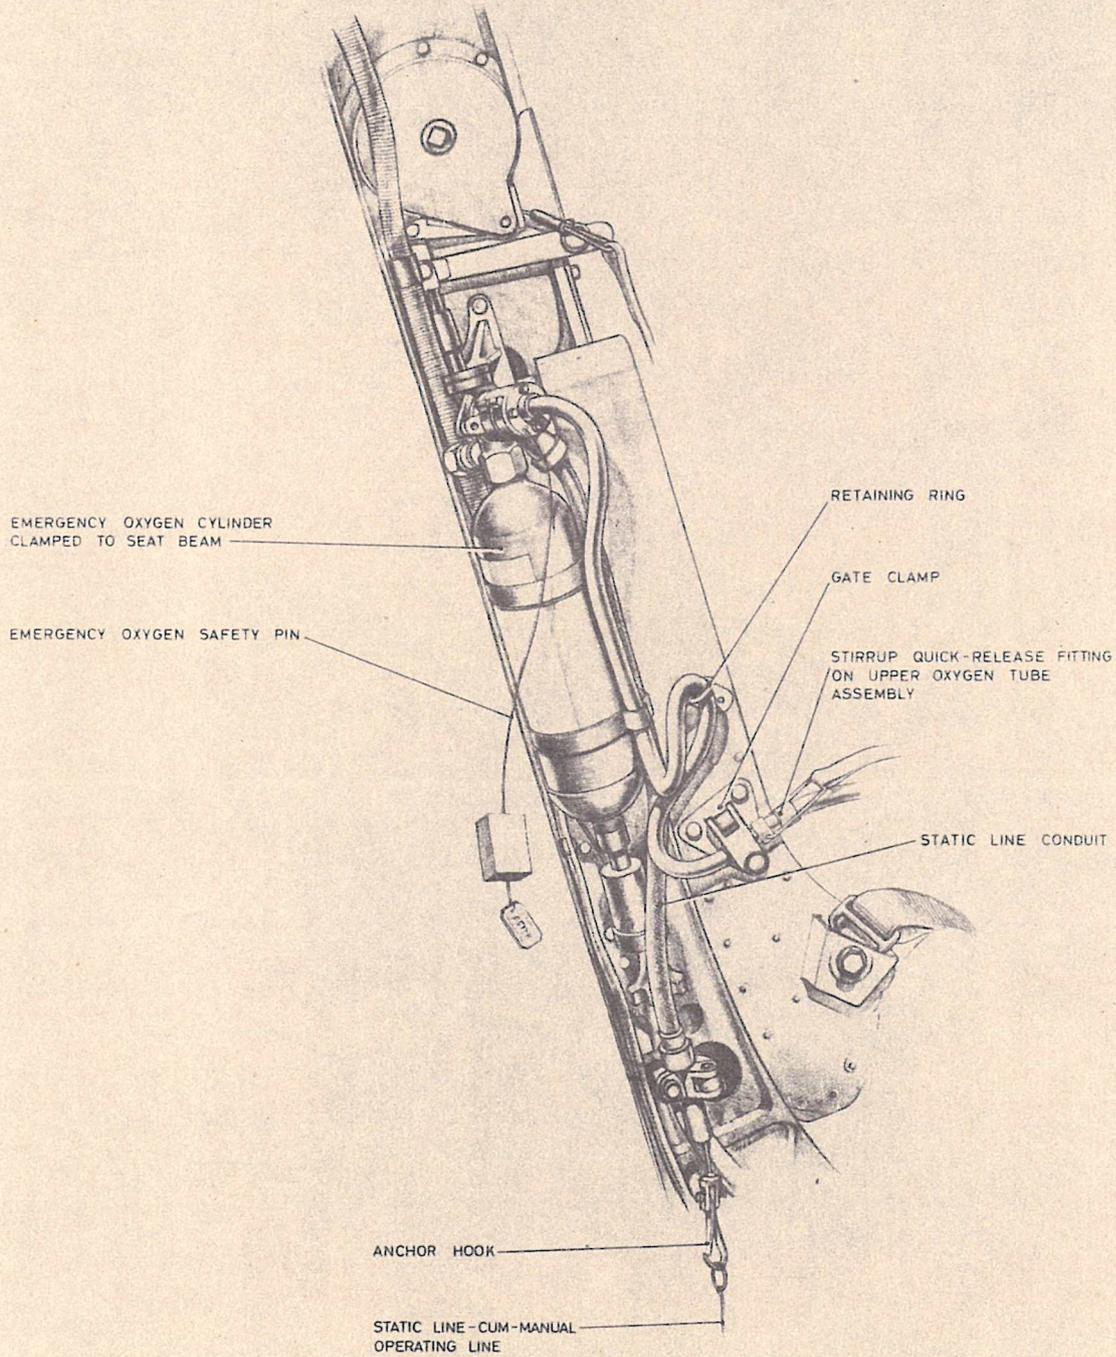

Fig. 1. Arrangement of emergency oxygen supply
25. The following procedure is to be used when equipping the seat: refer to fig. 1 to 3 for detail as necessary:—